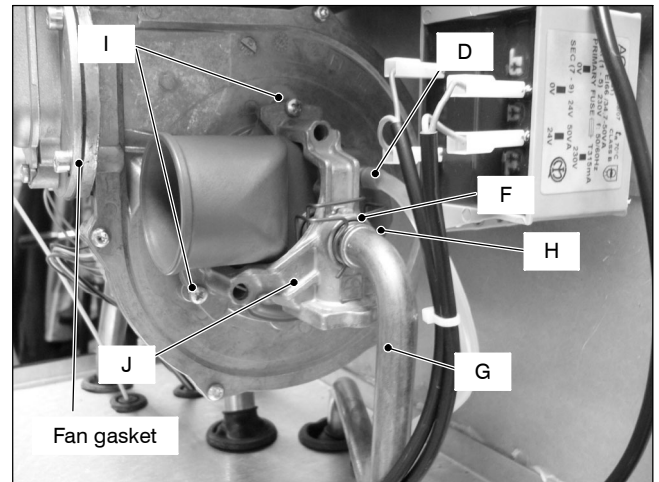

Fig. 17.3
- 4 Disconnect the rubber pipe *D* (Fig. 17.3).
- 6 Remove the fixing fork *F* and remove the gas pipe *G* (Fig. 17.3).
Before reassembling ensure the fan gasket (Fig. 17.3) is correctly mounted.